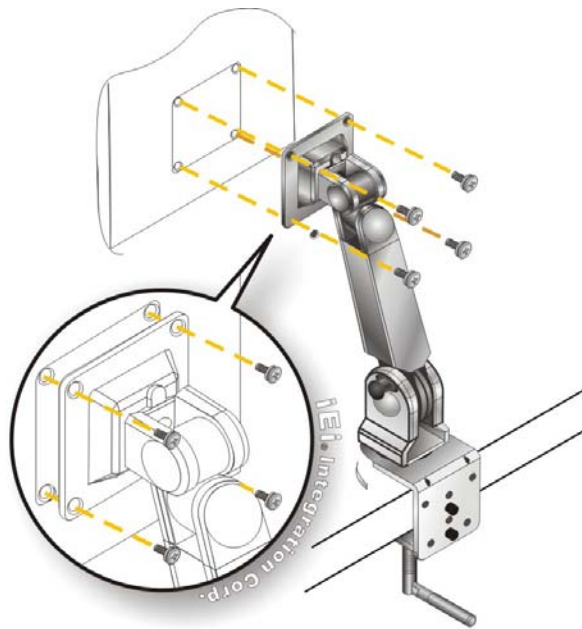

Figure 3-30: Monitor Arm Mounting
- Step 2:** Secure the monitor to the arm with the supplied retention screws (**Figure 3-30**).